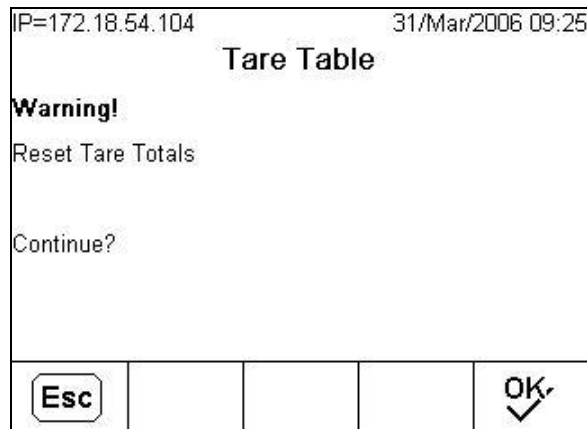

Figure C-17: Reset Tare Table Totals Warning Screen
2. Once **C*** is pressed, the screen shown in Figure C-17 displays.